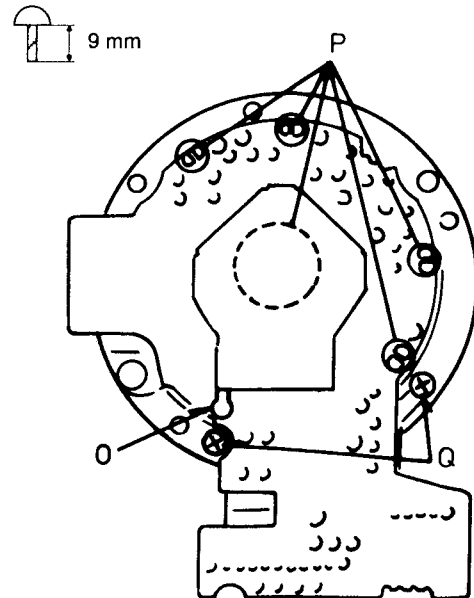

Fig. 15
- Lötstelle "O" öffnen und Abschirmung entfernen (Fig. 15).
- Unsolder the solder pads "O" and remove the screen (Fig. 15).
- Open the 18 solder connections "P" including the 10 not visible in the illustration (Fig. 15).